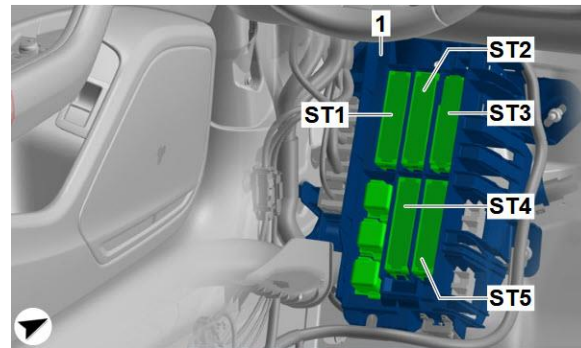

Figure 2. SR1/SB Relay Fuse Panel.
2. SR1/SB Relay Fuse Panel is located under the driver side dead pedal/footrest (Figure 2).